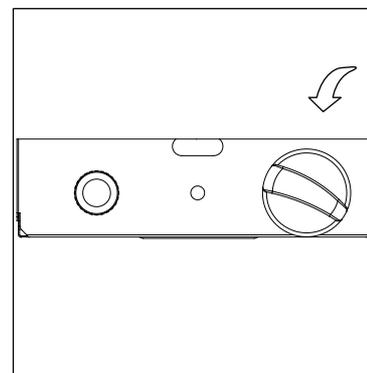

Figure 5
8. Push in and turn the control knob to the "HIGH", then release control knob. If you want a lower flame height, push in the control knob and turn counterclockwise to the "LOW" position. (Figure 5).